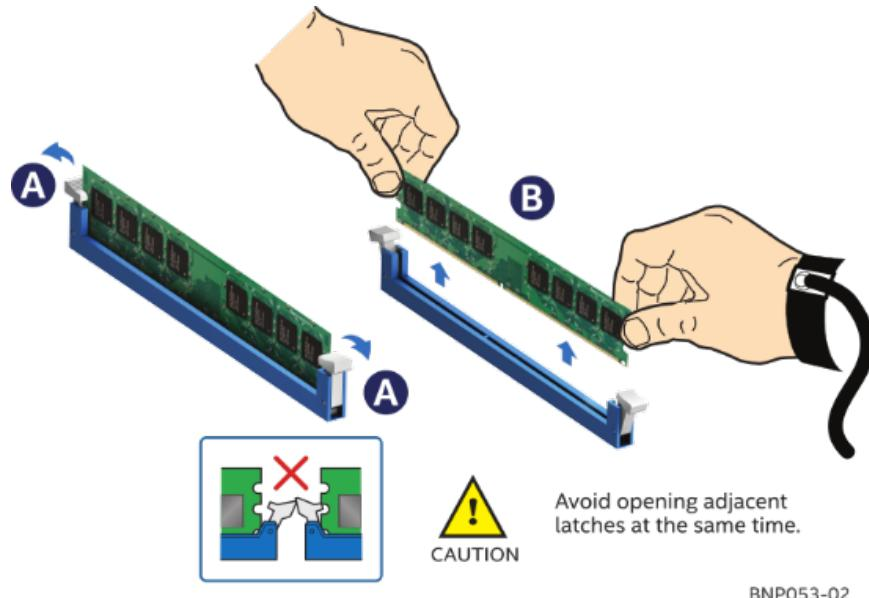

Figure 45. Memory Removal
2. Open the DIMM slot latches at either end of the selected DIMM socket (see Letter "A" in Figure 45). The DIMM will lift from the socket connectors.